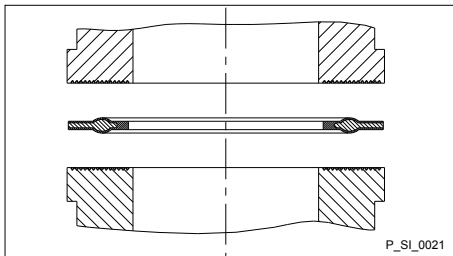

Fig. 15: Moulded composite seals with grooved insert
- The pump is supplied with PTFE moulded composite seals with a flare, which are used for the pump connectors, and which seal the connectors between grooved pump valves and ProMinent grooved inserts - see Fig. 15.